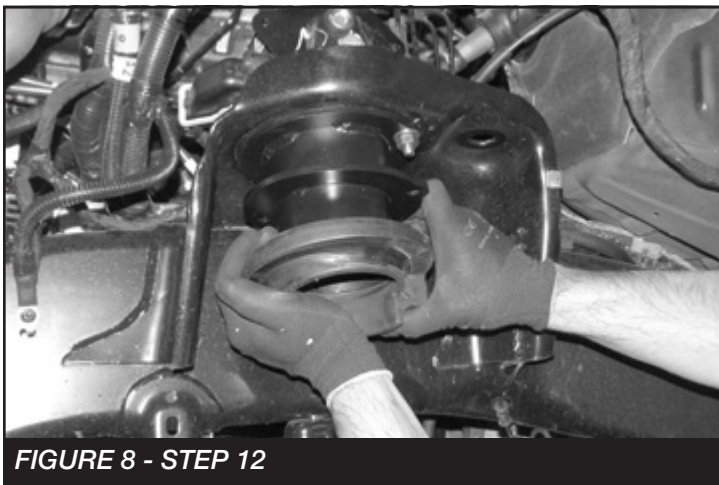

FIGURE 8 - STEP 12
12. Locate the factory coil spring isolator and slide it over the Fabtech coil spacer. **SEE FIGURE 8**